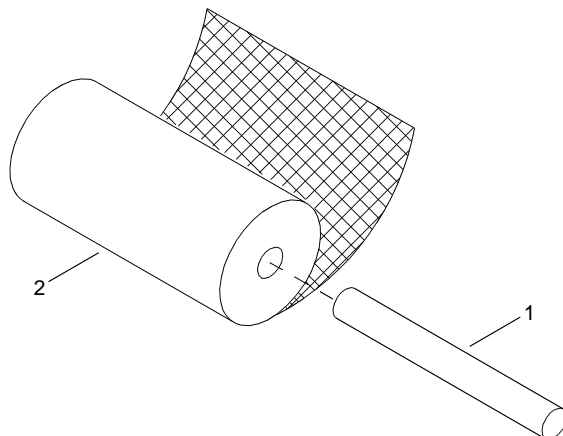

Figure 5. Paper Spool
2. Insert the paper spool (figure 5, item 1) through the center of the paper roll (figure 5, item 2) so that the paper unrolls from the bottom.
4. Position the paper roll (figure 5, item 2) and spool (figure 5, item 1) in the NAVTEX receiver (figure 1, item 1).